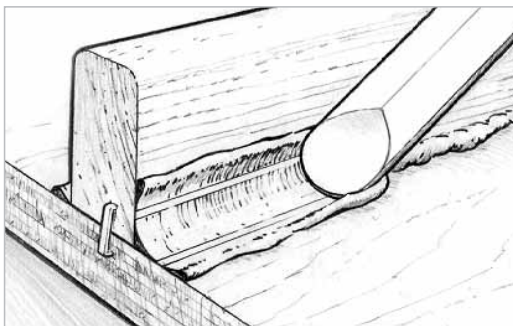

Figure 5-12 Shape and smooth the fillet with a rounded tool.
2. Shape and smooth the squeezed-out thick epoxy into a fillet by drawing a rounded filleting tool (804 Mixing Stick) along the joint, dragging excess material ahead of the tool and leaving a smooth cove-shaped fillet bordered on each side by a clean margin. Some excess filleting material will remain outside of the margin (*Figure 5-12*). Use the excess material to re-fill any voids. Smooth the fillet until you are satisfied with its appearance. An 804 Mixing Stick will leave a fillet with about a $\frac{3}{8}$ " radius. For larger fillets, an 808 Flexible Spreader, cut to shape or bent to the desired radius, works well.